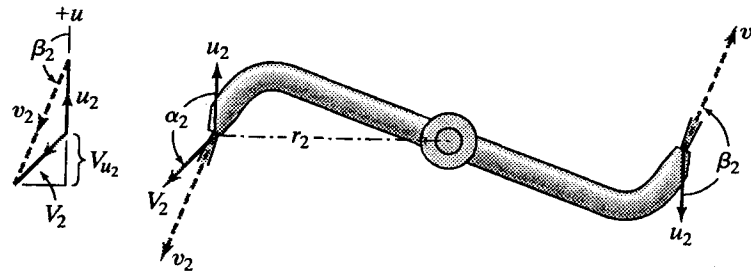

Figure 6.14
6.14.1 The flow from a lawn sprinkler such as Fig. 6.14 is 140 L/min, $\beta_2 = 180^\circ$, and the total area of the jets is 120 mm². The jets are located 200-mm from the center of rotation. Determine the speed of rotation if there is no friction.